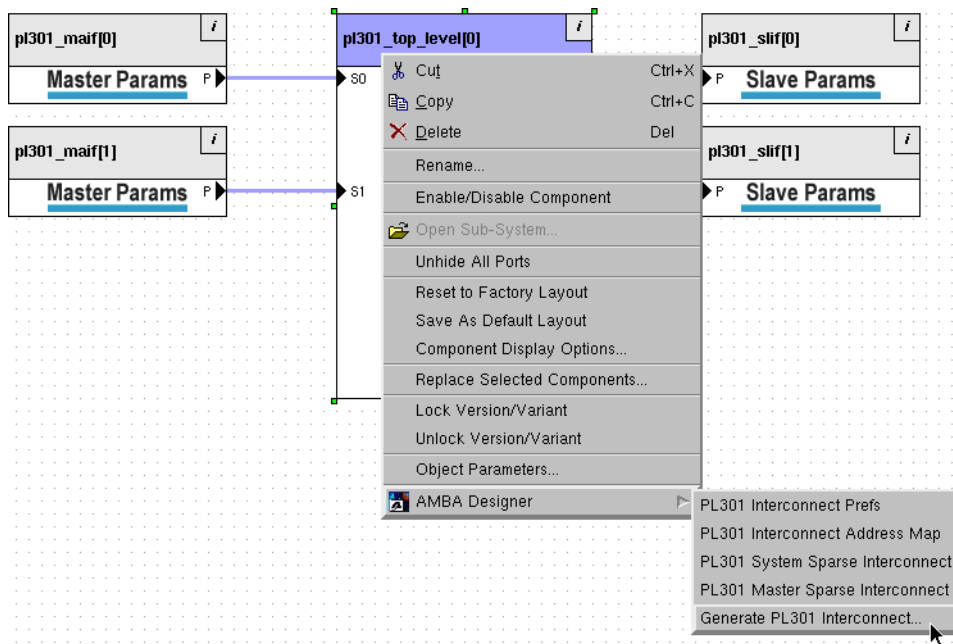

Figure 4-33 Generating the 2x2 interconnect
2. Select **AMBA Designer** → **Generate Interconnect...** from the context menu, as Figure 4-33 on page 4-36 shows.